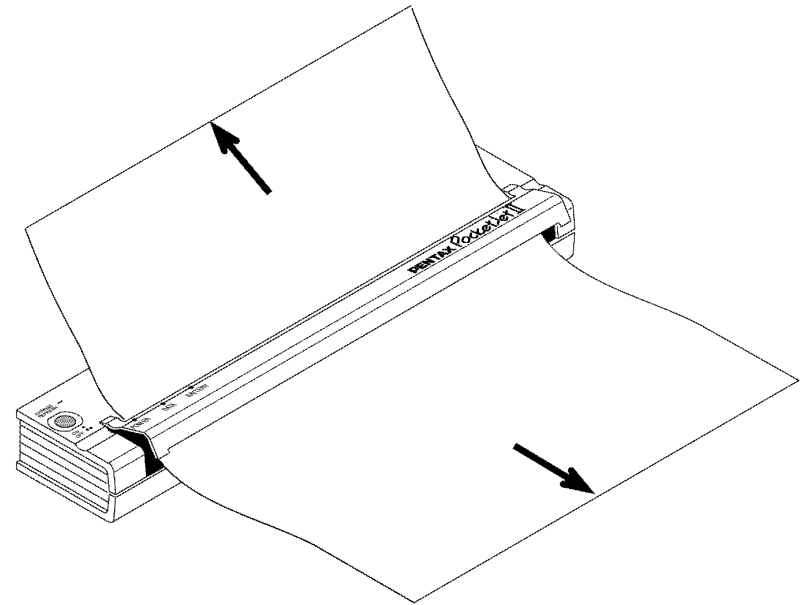

FIGURE 16. Pulling jammed paper out of the printer
- If the printer *does not* start to print immediately, open the release cover as far back as it will go. See Figure 16, page 32. Pull the paper out, close the cover, and reinsert paper.
2. Gently pull the paper out of the printer. Pulling in either direction is acceptable. See Figure 16.